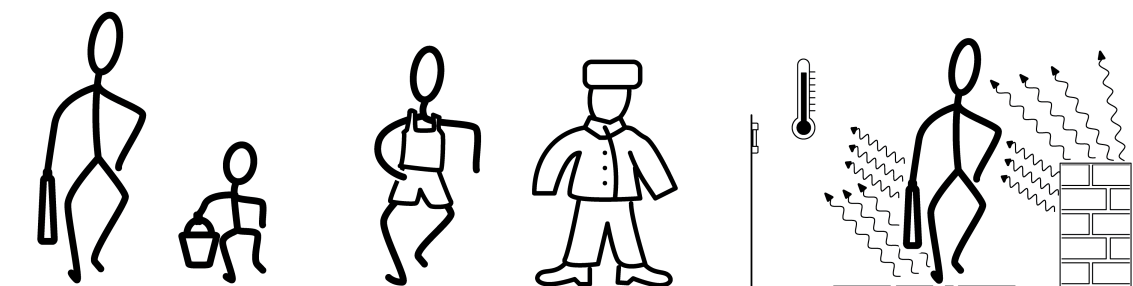

Figure 5: Size, insulation and contrast of heat sources
- Size of the heat source, e. g. adult or child (figure 5)
- Temperature of the heat source: surfaces at 37 °C radiate more intensely than at 10 °C (figure 5).
- Contrast between the heat source and the environment: if the heat source radiates just as intensely as the environment, detection will be significantly more difficult (figure 5).